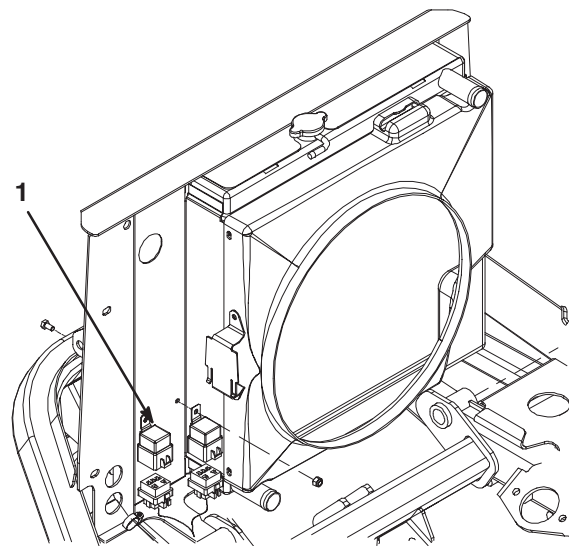

Figure 22
35. Using the existing holes, mount 2 relays to the front of the radiator frame with 2 screws (1/4 x 1/2 inch) and locknuts (1/4 inch) (Fig. 22).